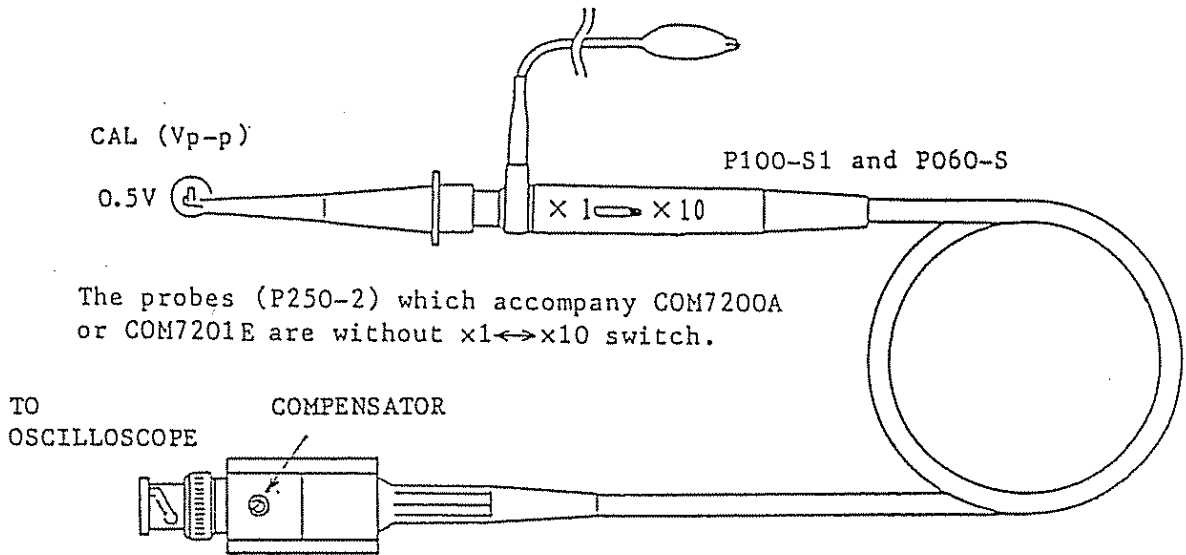

Figure 4.6
Connect one of the probes to the CH1 INPUT ③ terminal and set the VOLTS/DIV ⑥ switch at 10 mV. For Type P100-S1 or P060-S Probe, set the switch at $\times 10$. Connect the probe tip to the CAL terminal. Observing the waveform displayed on the CRT, adjust the compensator (see Figure 4-6) with a screwdriver so that an ideal waveform is obtained.